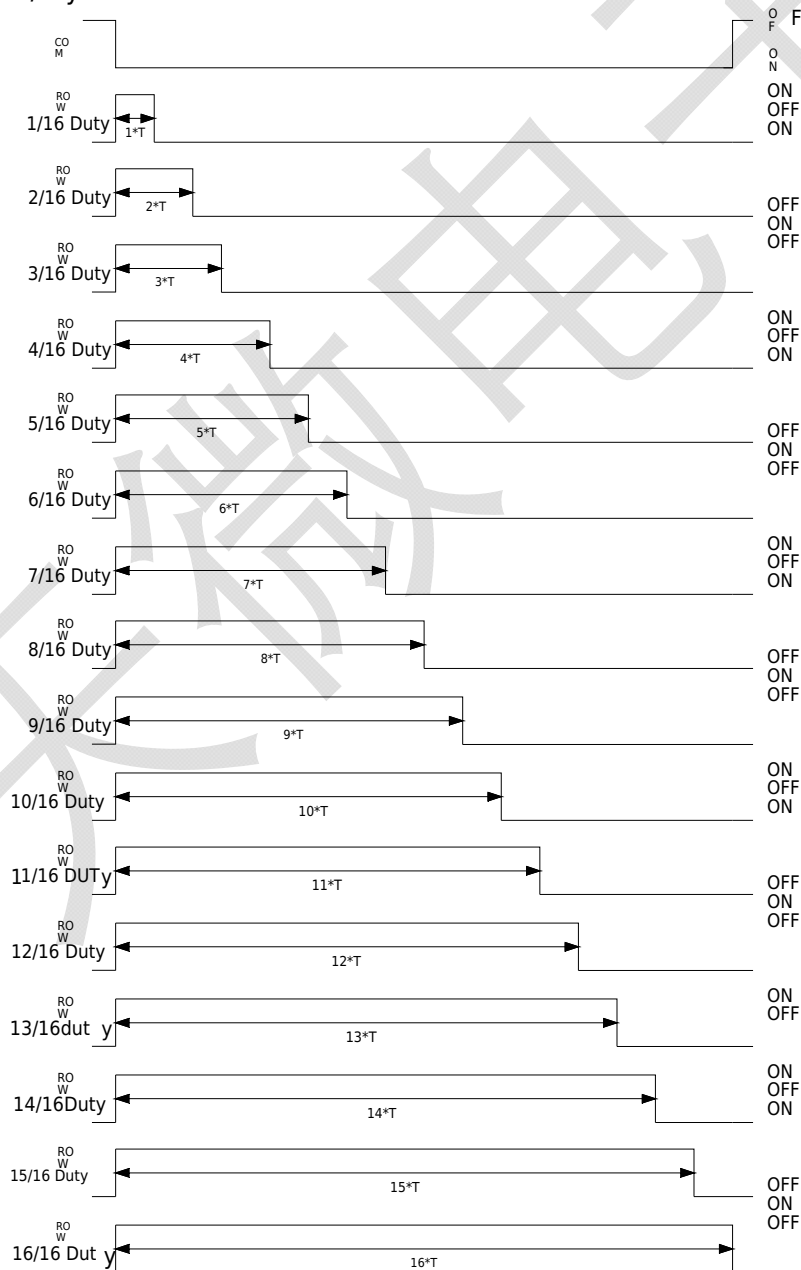

Figure 11
The TM1680 can be controlled by setting the PWM drive pulse width at the ROW end. Figure 11 below shows the COM and Output waveform at ROW end: (1) $T = 20 \times T_{clk}$ (32 \times 8 drive mode); (2) $T = 10 \times T_{clk}$ (24 \times 16 drive mode); (3) $T_{clk} = 1/F_{sys}$